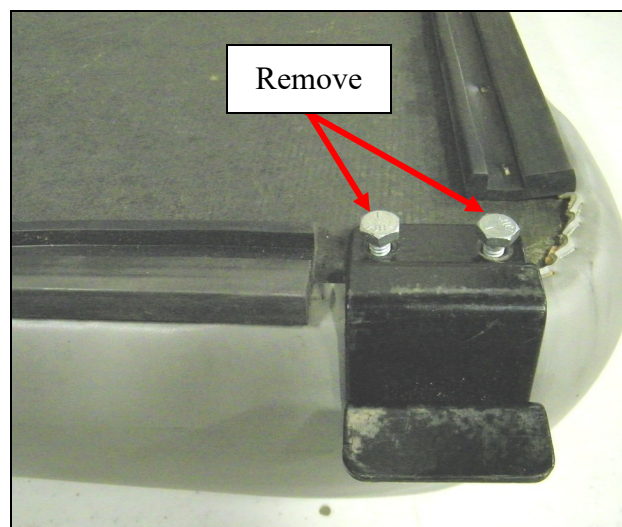
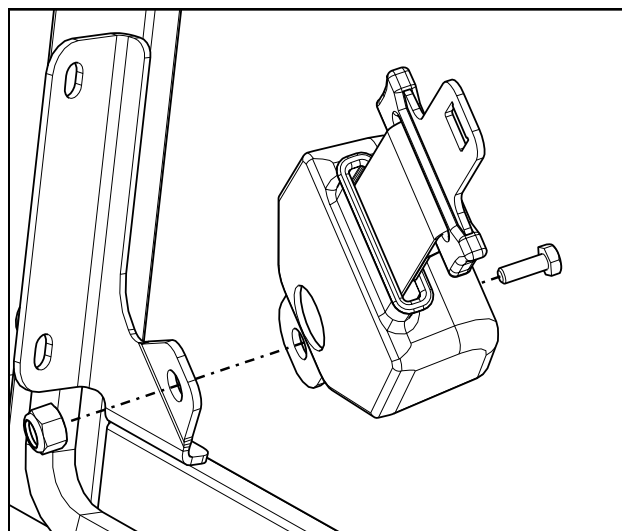

Fig. 13.1: Seat Base
Fig. 13.3: Seat belt
- 13.3 Mount Seat belt to the driver side mounting bracket on side frame using (1) 7/16-14 x 1" hex head bolt and 7/16-14 lock nut as shown in figure 13.1. Tighten mounting hardware to 50 ft.-lbs. (67.8 N-m). (**Figure 13.3**)